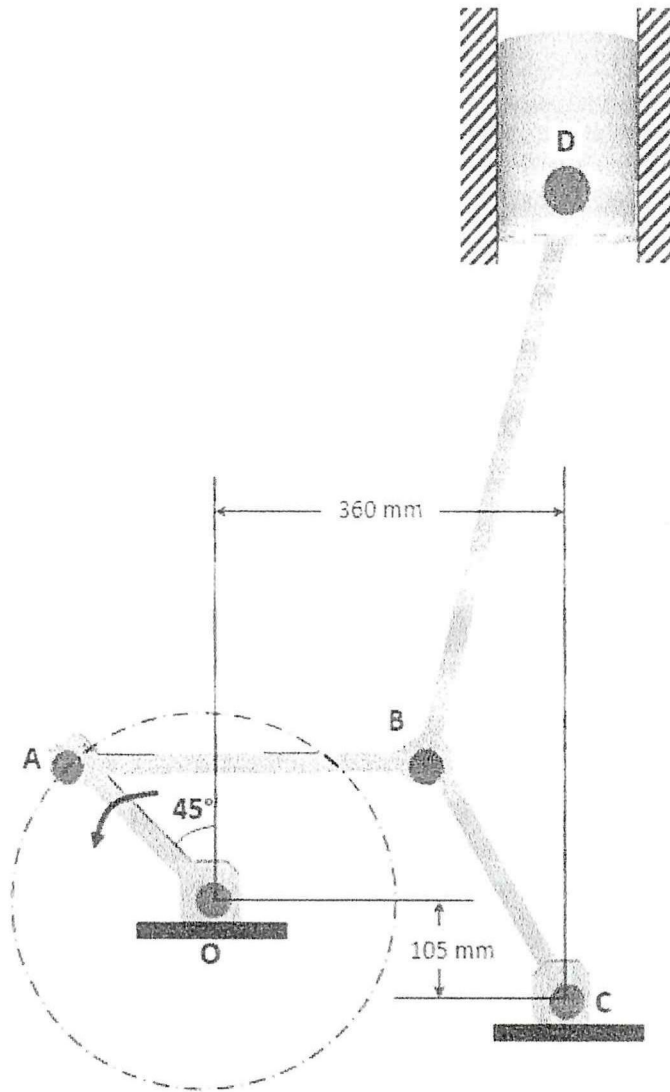

Figure Q1
- Q1** A slider D which only allowed a vertical stroke movement are connected to a mechanism as shown in **Figure Q1**. The crank OA is rotating anti-clockwise at 180 RPM. The links dimensions are as follows: OA = 180 mm, CB = 240 mm, AB = 360 mm and BD = 540 mm.